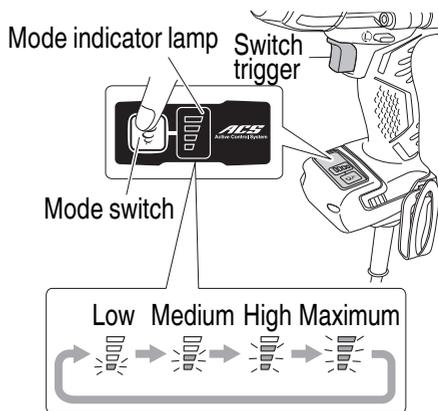

Fig. 6
4. Switching tightening mode (see **Fig. 6**)